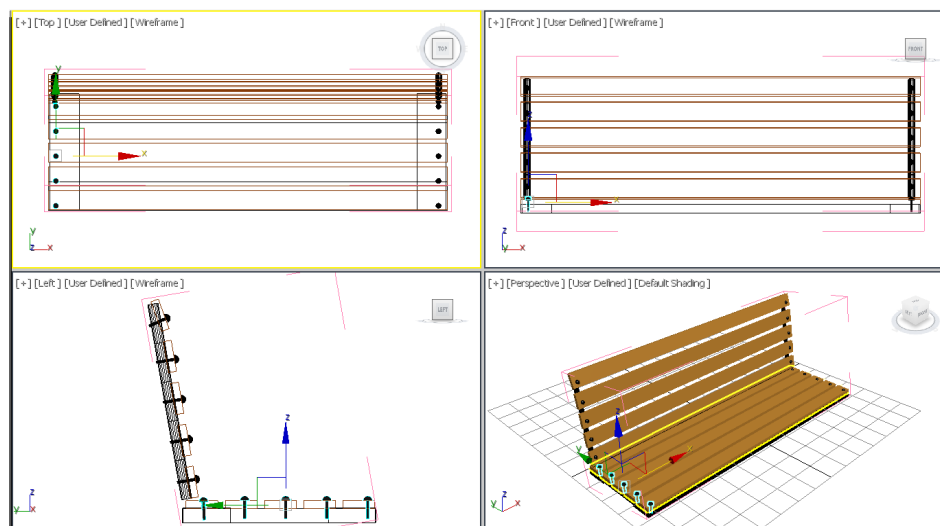

Figure 2-97 Alignment of left side seat rivets in viewports
15. Align *left side seat rivets* using the **Select and Move** tool in the viewports, as shown in Figure 2-97.